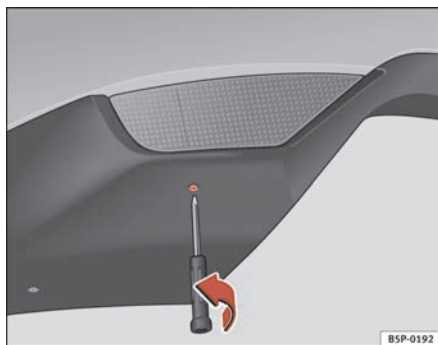

Fig. 188 Rear light fitted on bumper and viewed from below
- Insert the star-headed screwdriver in the opening on the lower section of the rear light and unscrew the screw in the direction of the arrow ⇒ fig. 188.